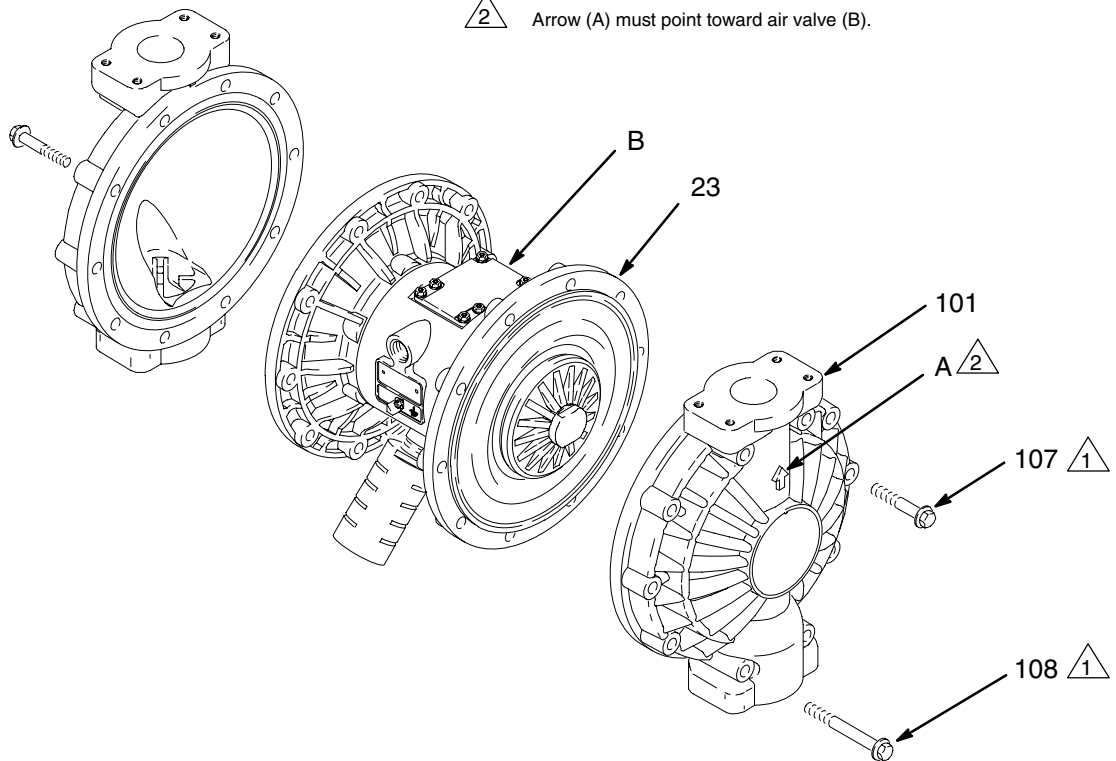

Fig. 12
3. Using 13 mm socket wrenches, remove the screws (107 and 108) holding the fluid covers (101) to the air covers (23). Pull the fluid covers (101) off the pump. See Fig. 12.
- 1 You must torque the eight long screws (108) first, then the short screws (107). Torque to 22–25 N•m. See **Torque Sequence**, page 30.
- 2 Arrow (A) must point toward air valve (B).
4. Apply medium-strength (blue) loctite® or equivalent to the threads of the fluid-side plates (105). Hold one of the outer plates (105) with a wrench and torque the other outer plate to 18.1–22.6 N•m, at 100 rpm maximum. Do not over-torque.
5. Align the fluid covers (101) and the center housing (1) so the arrows (A) on the covers face the same direction as the air valve (B). Secure the covers with the screws (107 and 108), handtight. Install the longer screws (108) in the top and bottom holes of the covers. See Fig. 12.
6. First, torque the longer screws (108) oppositely and evenly to 14.7–16.9 N•m, using a 13 mm socket wrench. Then torque the shorter screws (107). See **Torque Sequence**, page 30.